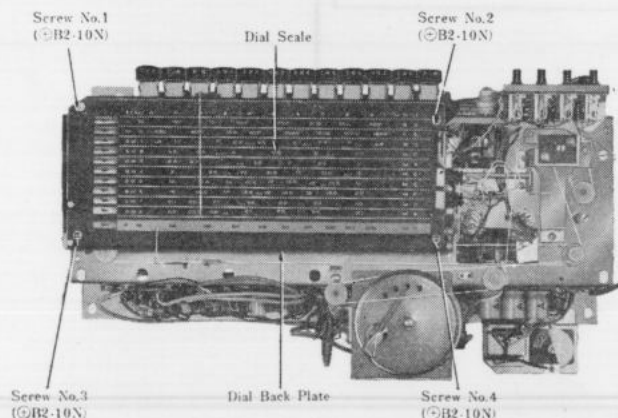

Fig. 3
Replacement of Band Selector Pin (Refer to Figs. 3 & 4)
1. Remove four (4) dial scale & back plate mounting screws, Nos. 1~4, as illustrated in Fig. 3.
To Remove Band Selector Switch (Refer to Figs. 3 & 5~7)